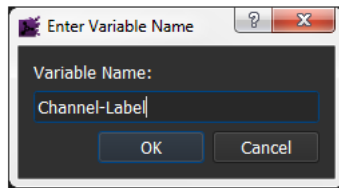

Fig. 4-31: Enter Variable Name Dialog
- 4 Enter a variable name in the **Enter Variable Name** dialog (see Figure 4-31) and click **OK**.